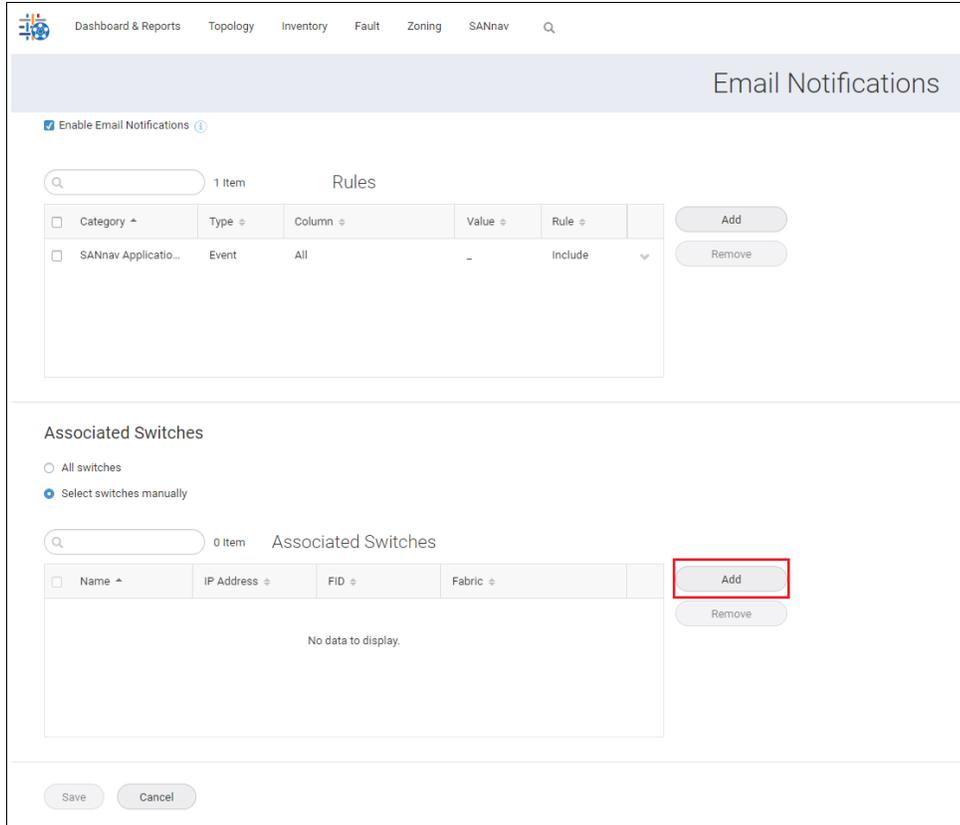

Figure 5-154 Select switches manually window
- a. Select the **Select switches manually** option, and then click **Add** next to the Associated Switches table. You can also remove associated switches from the Associated Switches table (Figure 5-154).